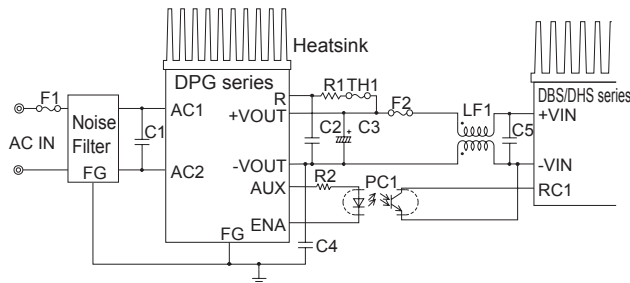

Fig.1.1 Standard connection method
■ To use DPG Series, connection shown in Fig.1.1 and outside attached components are required. Through this connection, DC output voltage can be obtained from AC input voltage. AC input voltage and DC output voltage are not insulated.
- For connecting the DBS/DHS series, see Fig.1.1.